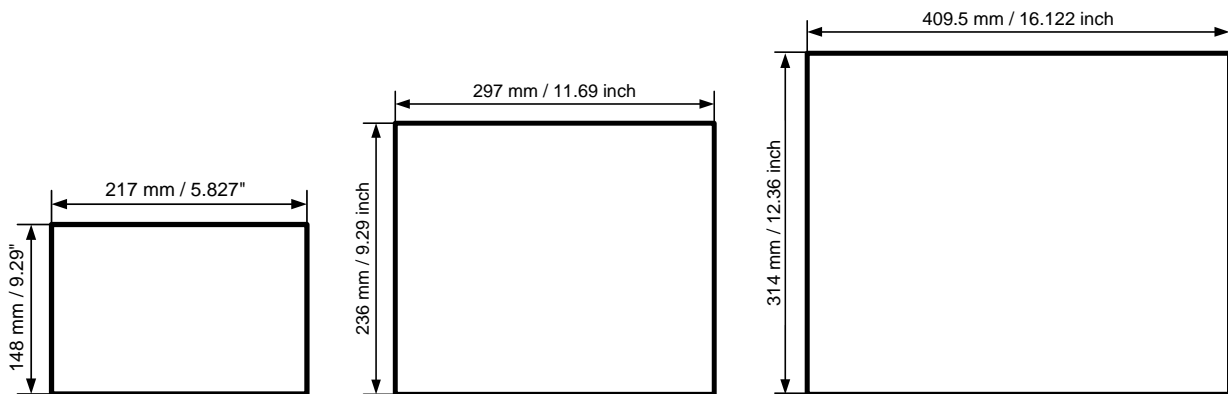

Fig. 41: Panel cut-out dimensions for M@CII 70/104/150 systems
2. Depending on the dimension of the display enclosure of your system, cut a hole in the panel/subframe (refer to Fig. 41 or Table 6 for the panel cut-out dimensions). The panel where you intend to attach the system must be accessible from both front and rear side.